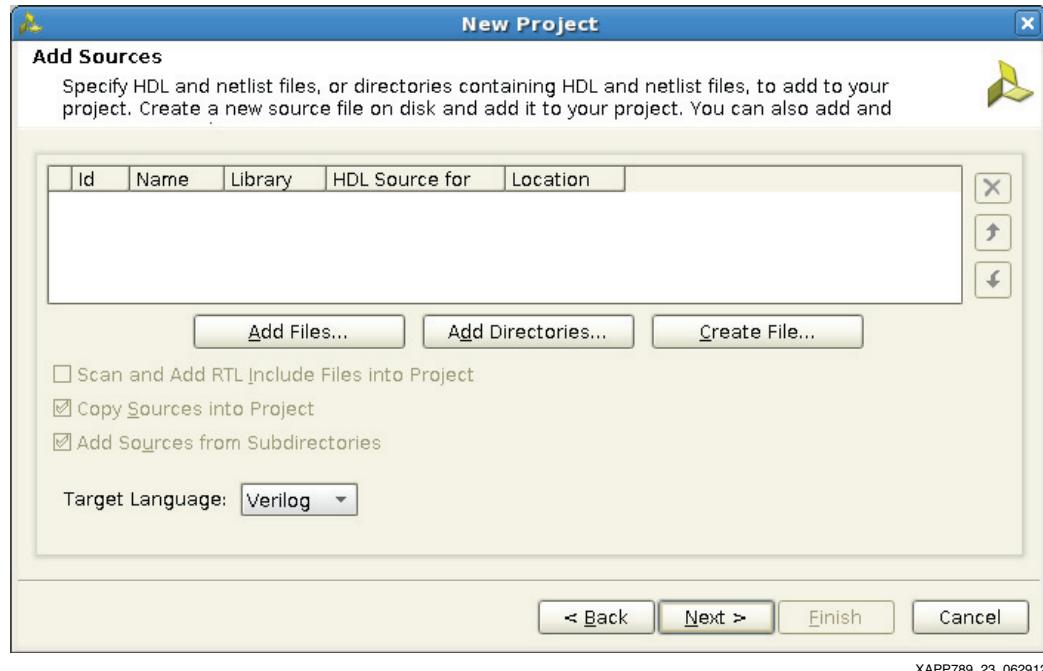

Figure 23: New Project Window (Add Source)
8. Click **Next** in the Add Sources window to create an empty project first (Figure 23).